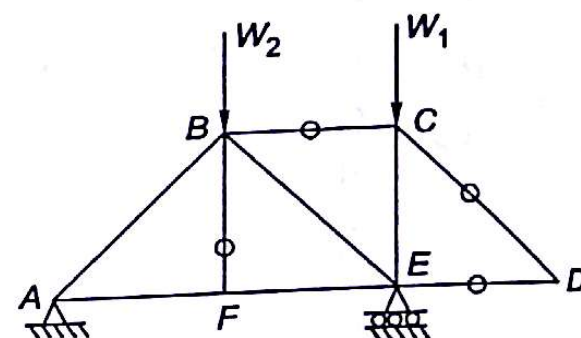

Fig. 4.9
- When two bars (or members) are meeting at a point and the two bars are non-collinear and no external force or a reaction is acting at the point, then the force in both the members will be zero. Fig. 4.9 shows a truss $ABCDEF$, supported at E and A and carrying vertical loads at B and C . At the point D , there is no external force. Two bars CD and DE , both are non-collinear and meet at the point D . Force in both the members CD and DE will be zero.
- When two collinear members meet at a point, and a third member is connected at this point then, the force in this third member will be zero. In the Figure 4.9, two members AF and FE are collinear and the third member BF is connected at the point F , then force in the member BF will be zero.